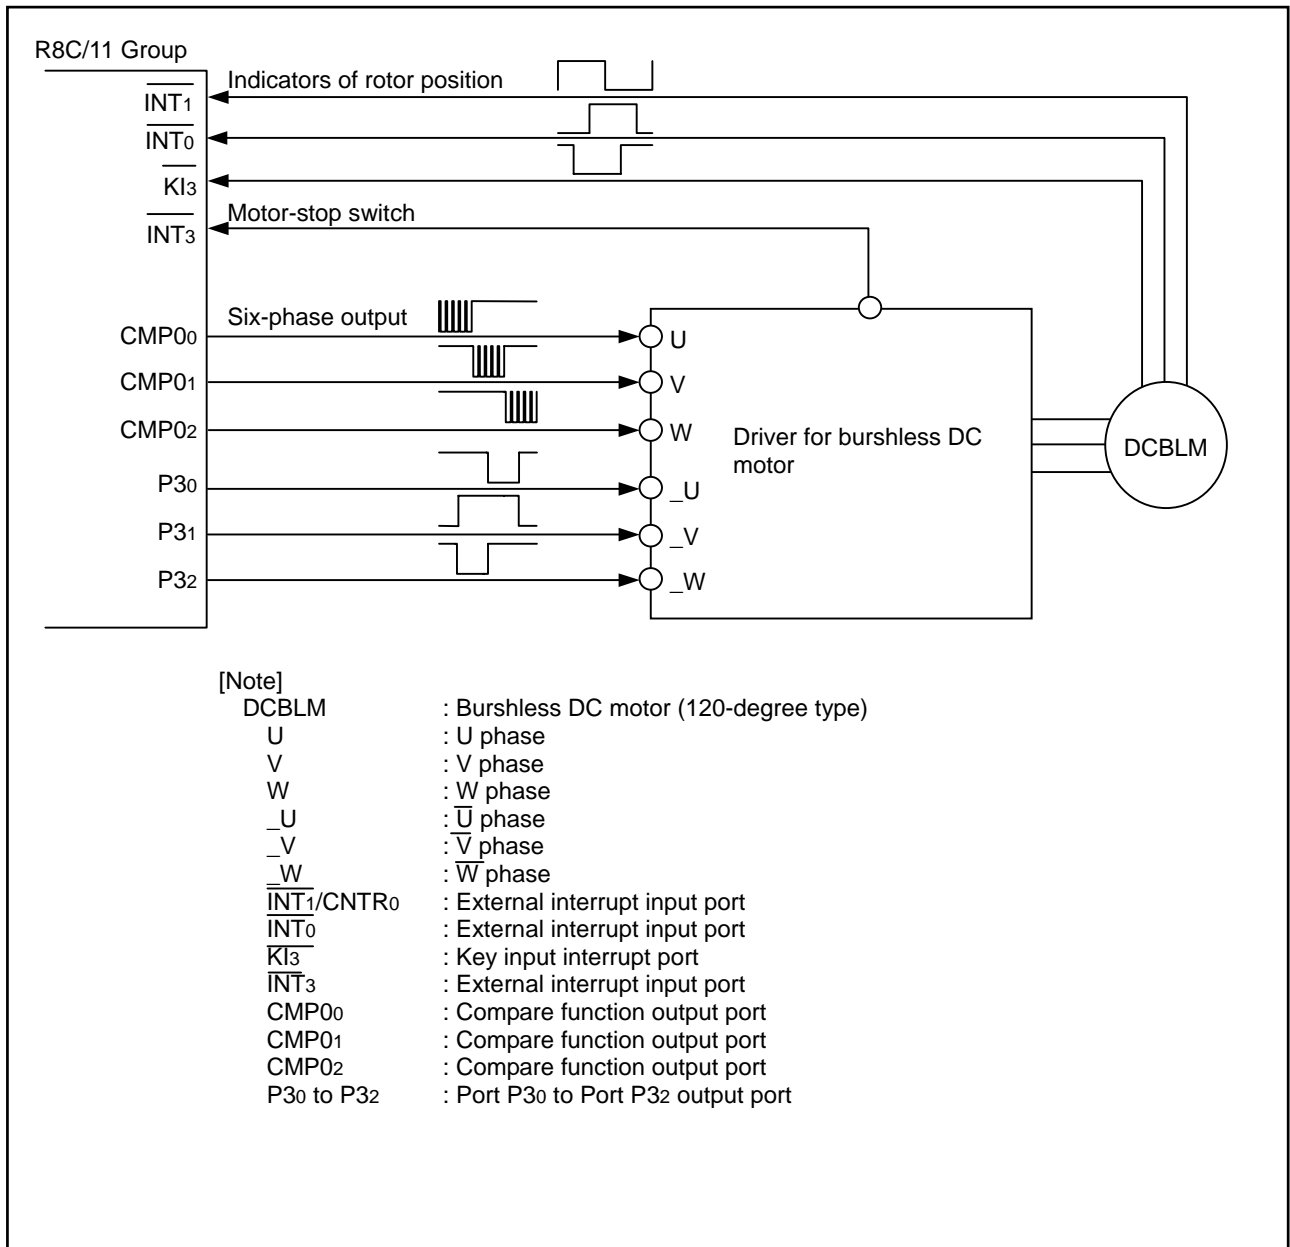

Figure 3.1 Set-up for Controlling a Brushless DC Motor
1. The R8C/11 group is used to control a brushless DC motor in the way shown in Figure 3.1.